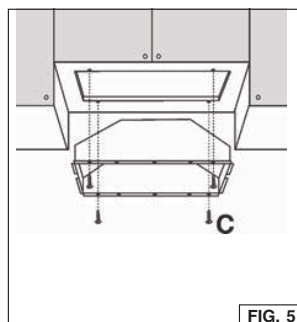

FIG. 5
5. Insert the hood in the cabinet and secure with the (4) "C" mounting screws 3.2x13mm (Fig. 5). For alternative side fixing use M4x15mm screws with washers and nuts.